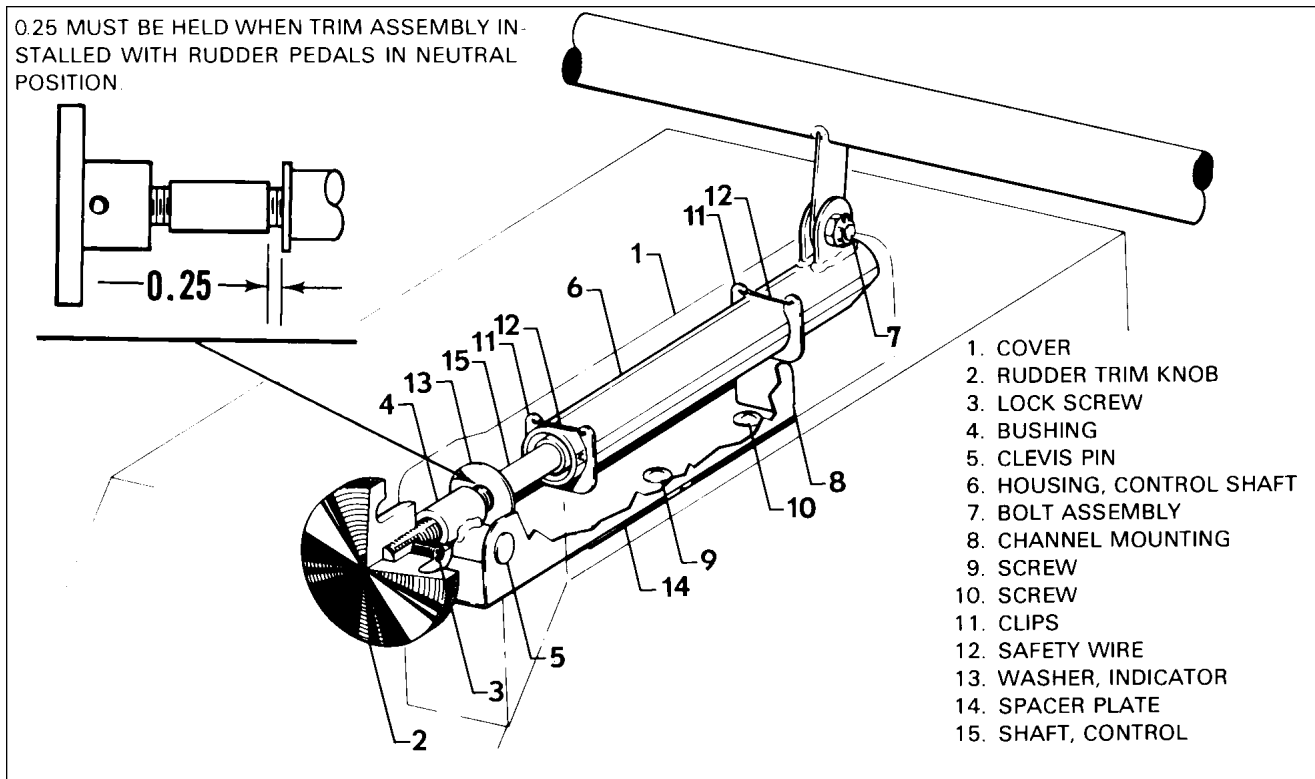

Figure 27-20. Rudder Trim Control
1. Removal Of Rudder Trim Controls (Refer to Figure 27-20.)
2. Installation Of Rudder Trim Controls (Refer to Figure 27-20.)